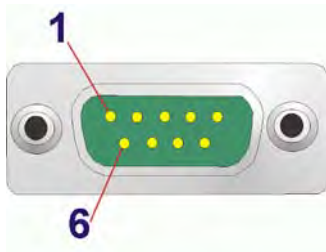

Figure 3-32: Serial Port Pinout Locations
- CN Pinouts: See **Table 3-33** and **Figure 3-32**